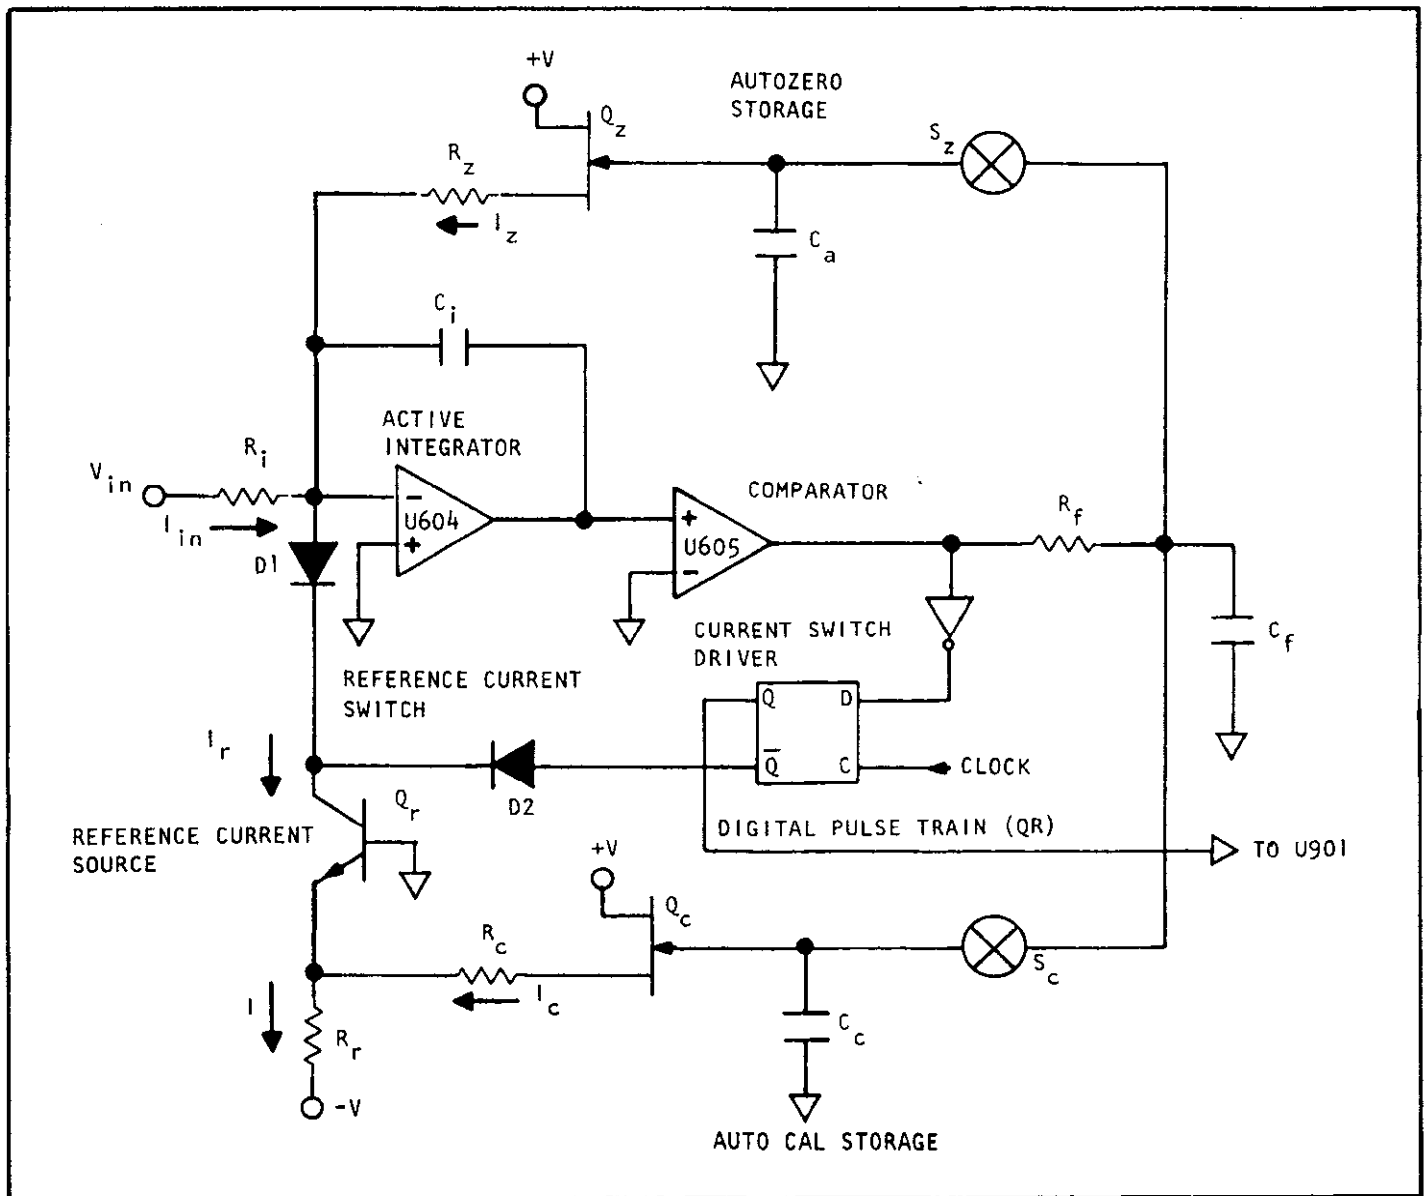
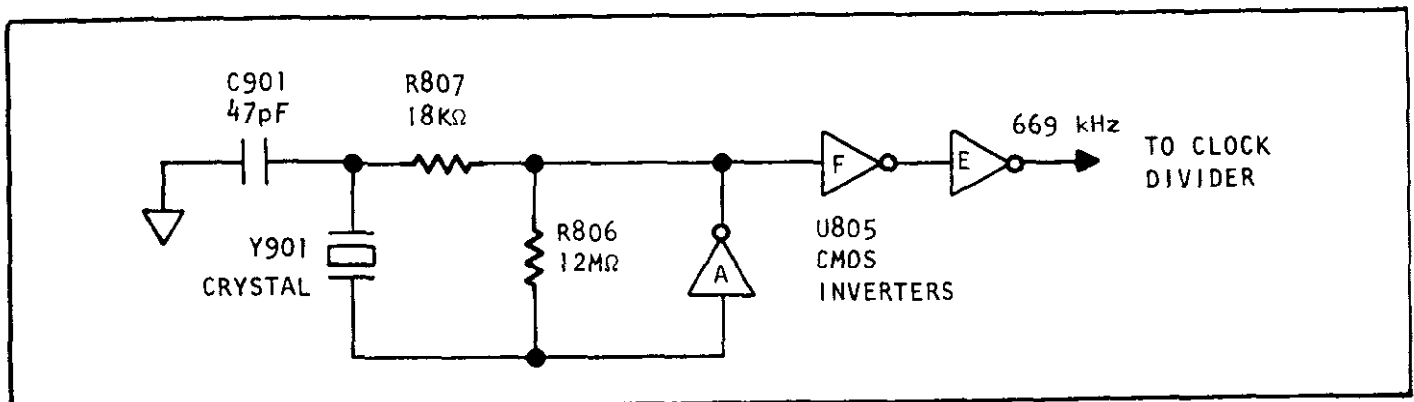

FIGURE 5-14. Simplified Schematic of the A/D Converter.
FIGURE 5-15. Simplified Schematic of 669 kHz Oscillator.
e. A/D Converter Simplified Schematic Description (Figure 5-14).
5) In the reference current circuit, the base of Q_R is referenced to ground and the emitter resistor R_2 connects to a negative voltage ($-V$). The current through R_F (I) is approximately equal to $I_R + I_C$ (neglecting base current of Q_R). Since I is constant, I_R will vary inversely with respect to a change of I_C .
f. Oscillator. The oscillator (shown in Figure 5-15) is crystal controlled and operates at approximately 669 kHz. It is divided down 2:1 to produce the A/D converter clock. The oscillator runs at twice the clock rate for the following two reasons: